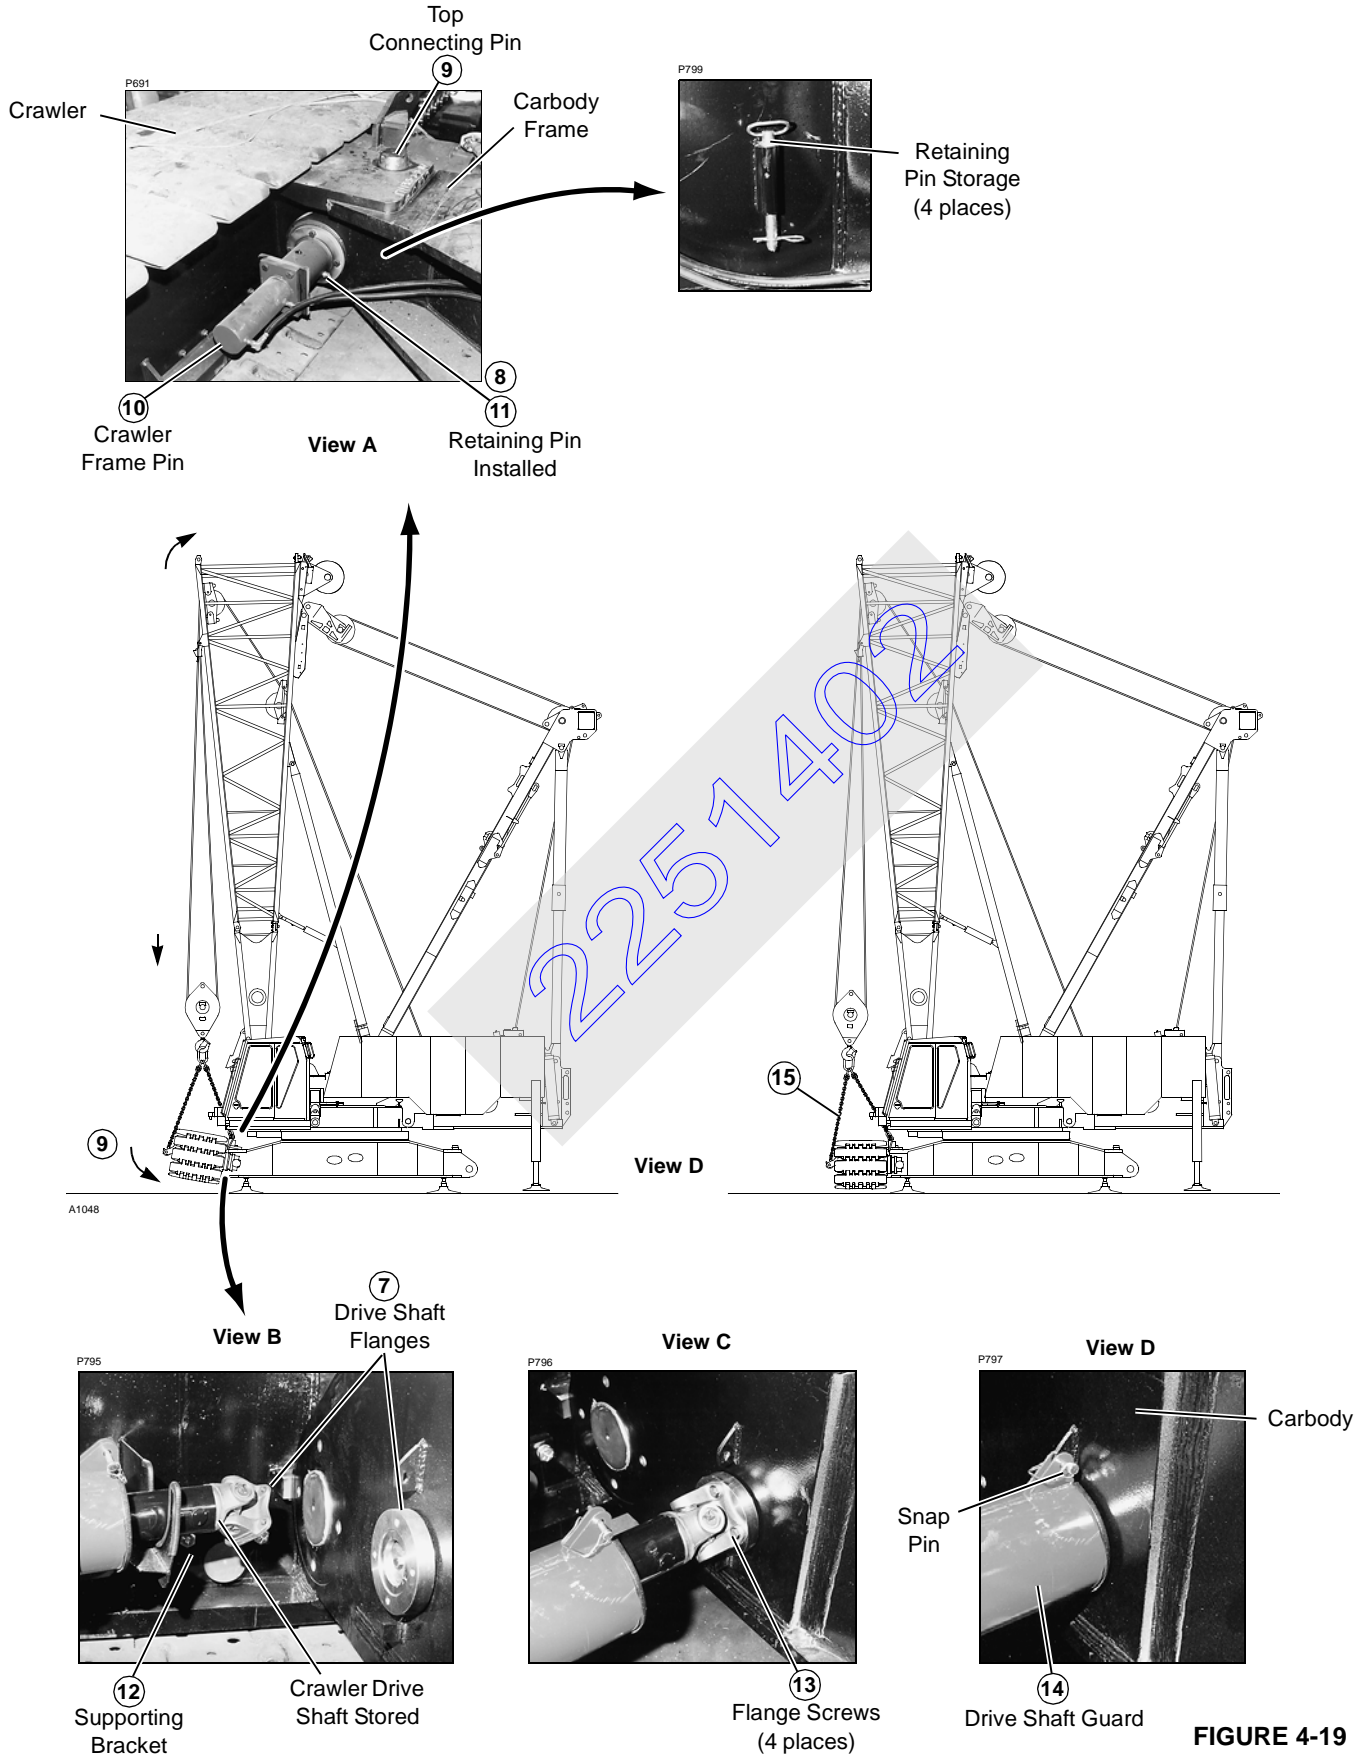

FIGURE 4-19
7. Swing crawler by hand, as required, so drive shaft is at rear of carbody (end with drive shaft flanges as shown in Figure 4-19, View B).
9. Lower crawler, raise boom, and swing as needed to engage top connecting holes in crawler frame with top connecting pins in carbody (Figure 4-19, View A).
11. Engage crawler frame pins and install retaining pins (Figure 4-19, View A).
12. Lift crawler drive shaft off supporting bracket (Figure 4-19, View B), extend shaft, and align holes in drive shaft flange (Figure 4-19, View C).
13. Insert flange screws and torque to 74 ft-lb (100 N•m) (Figure 4-19, View C).
14. Slide drive shaft guard over drive shaft (Figure 4-19, View D) and pin guard to carbody.